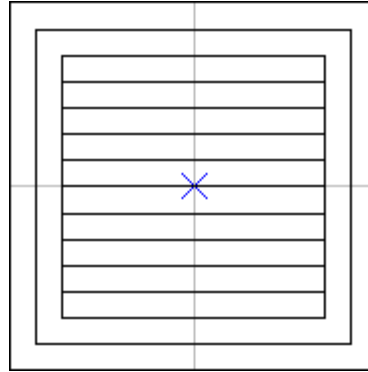

Fig. 3.2.10
**Loops:** Decide the amount of loop created inside the object according to the pitch. The hatch line will be filled in the loop. Fig.3.2.10 shows the hatch representation when this value is 2.